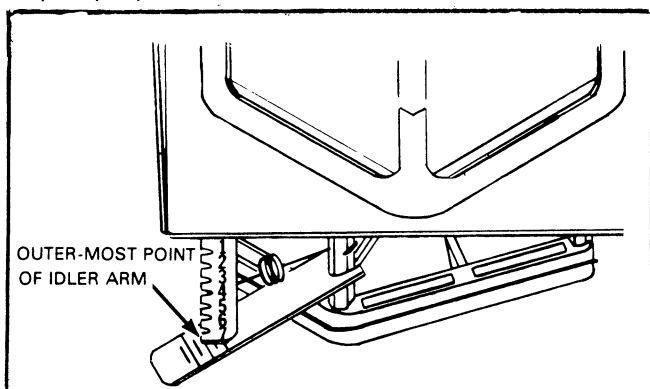

Figure 114
1. To adjust the clutch, install the spring in number (4) four slot in idler bar (notch nearest pivot point is number (1) one). See Figure 114.